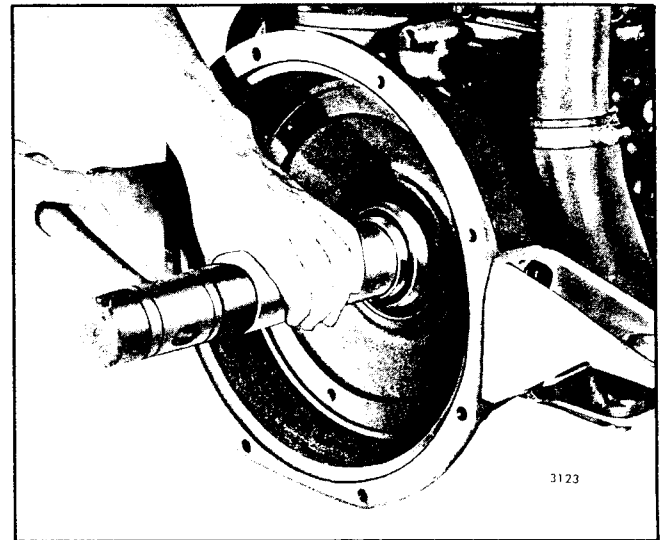

Fig. 6 - Installing Clutch Drive Shaft Pilot Bearing in Clutch Drive Adaptor
- b. Start the bearing, shielded side facing out, straight into the clutch drive adaptor, then drive the bearing straight into and against the shoulder in the adaptor with a bearing driver, or use a round bar as shown in Fig. 6.